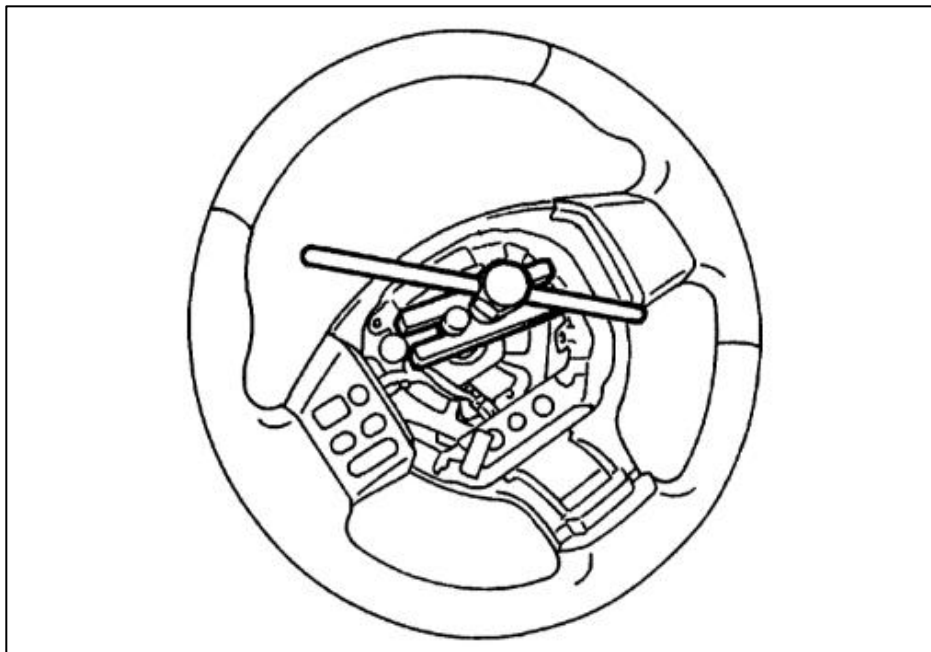

Figure 5
11. Using a Steering Wheel Puller, remove the OE Steering Wheel. If you do not have a Steering Wheel Puller, grab the Steering Wheel at the top and bottom and rock the wheel back and forth to loosen it. *Figure 5.*